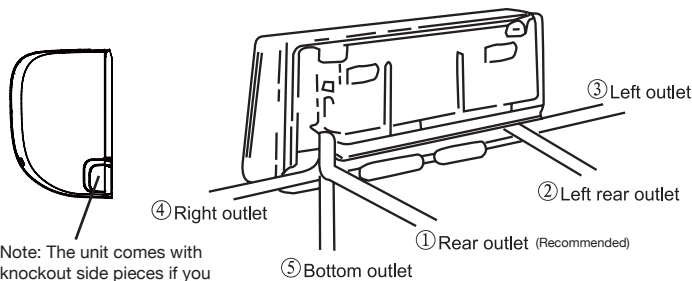

Figure 2: Optional line set configurations
4. Choose location of hole for line set. The recommended position for all piping is the right side of the indoor unit (see ① in figure 2 below). However, the unit can accommodate piping to both the left and right. See figure 2 below for different ways piping can be fixed. Figure 3 provides measurements for hole placement for Rear Outlet and Left Rear Outlet configurations. Make sure to use minimum 2.75" hole saw.